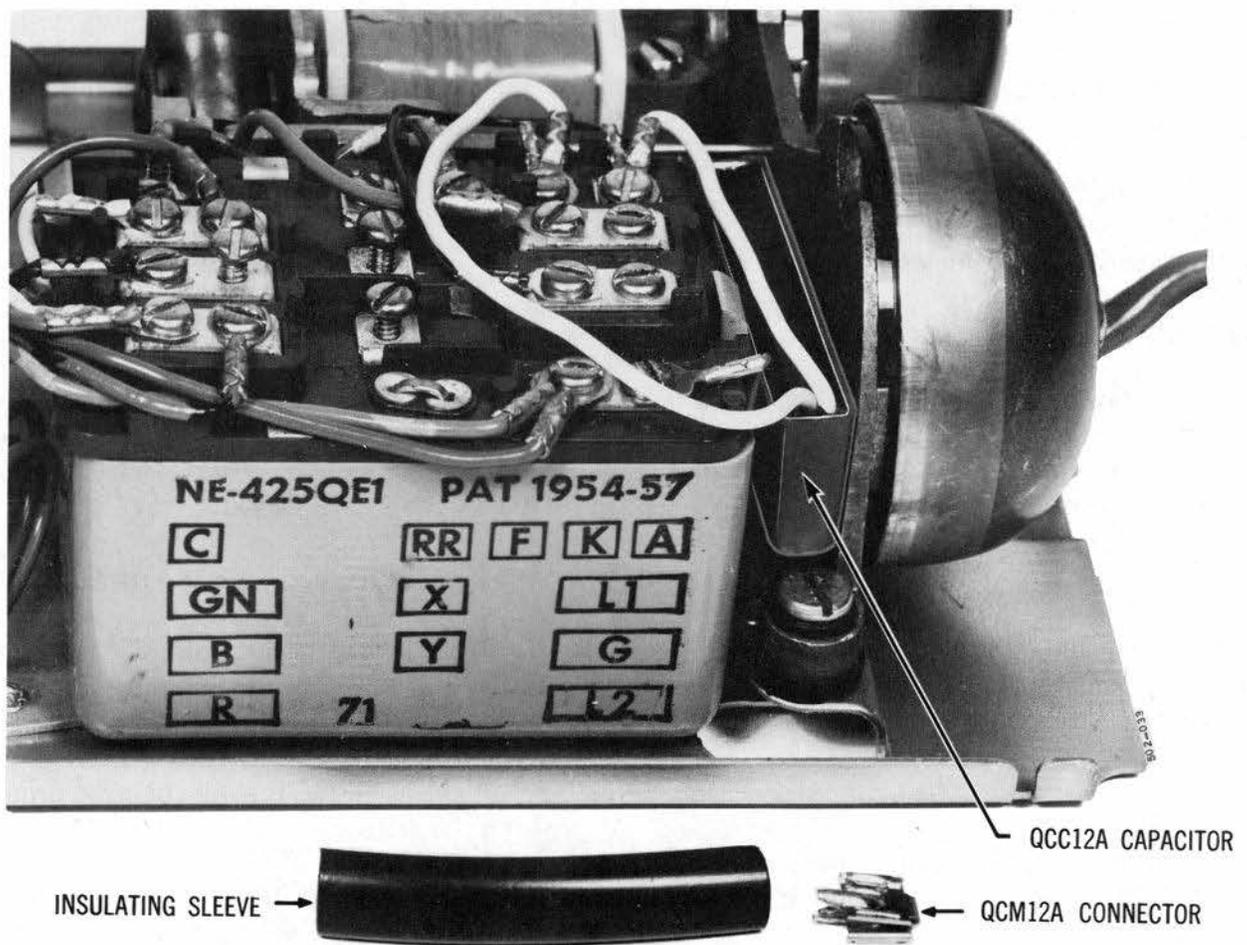

Fig. 17 – Replacing Defective Ringer Capacitor
5.15 An externally-mounted QCC12A capacitor may be used to replace an open or shorted ringer capacitor in the NE-425QE1 network. The ringer capacitor is connected between terminals A and K on the network (Fig. 17).
5.16 When the ringer capacitor is shorted, it is necessary to use a QCM12A connector in conjunction with the QCC12A capacitor. This connector consists of a terminal for connecting two spade-tipped leads together, and an insulating sleeve. (Fig. 17.) Connect one side of the QCC12A capacitor to terminal A of the network; leave the ringer lead of this terminal. Remove the ringer lead from terminal K of the network, and connect it to the other side of the QCC12A capacitor, using the QCM12A connector.